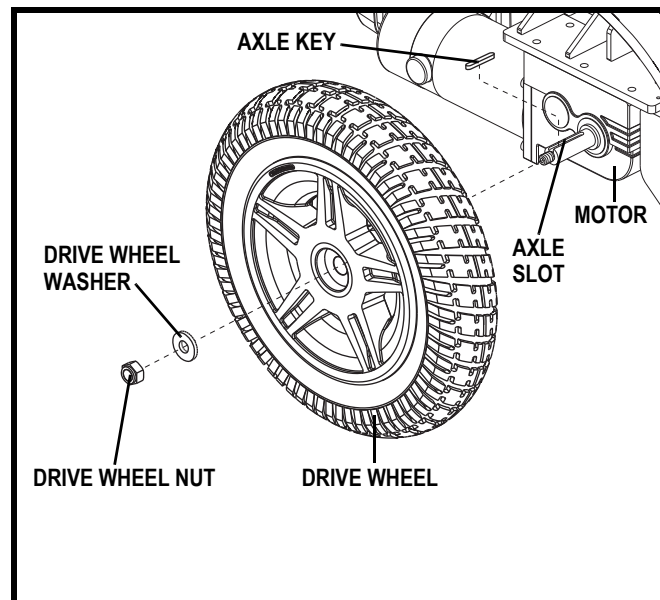

Figure 17. Jazzy Elite Series Drive Wheel Removal
4. Remove the drive wheel nut and washer from the axle. See figure 17.
8. Reinstall the drive wheel nut and washer onto the axle and tighten. See figure 17.